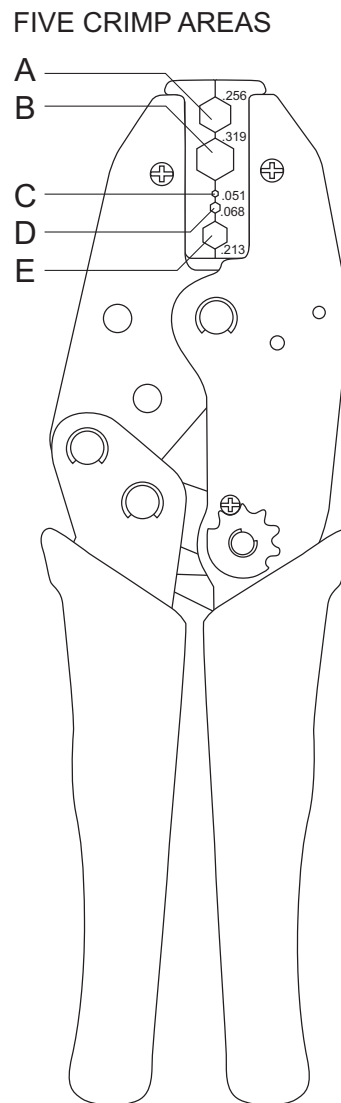

Figure 9. Motorola Crimping Tool 66-80388A26
Refer to Figure 9. Use the Motorola crimping tool (part number 66-80388A26) in the following procedure.
7. Use crimp area E of the crimping tool shown in Figure 9 on page 9 to form the crimp into place.